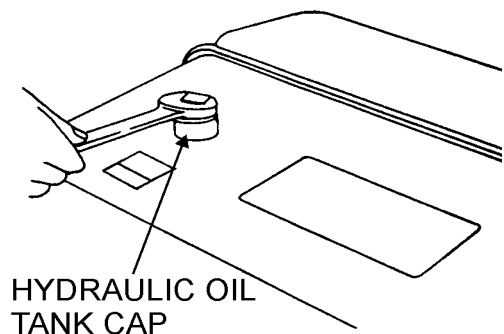

Figure 34. Hydraulic Oil Change
4. Open the tank cap (Figure 34) and fill tank with hydraulic oil. (Capacity: About 4.5 gallons). Use **Shell Tellus Oil #46** or equivalent.